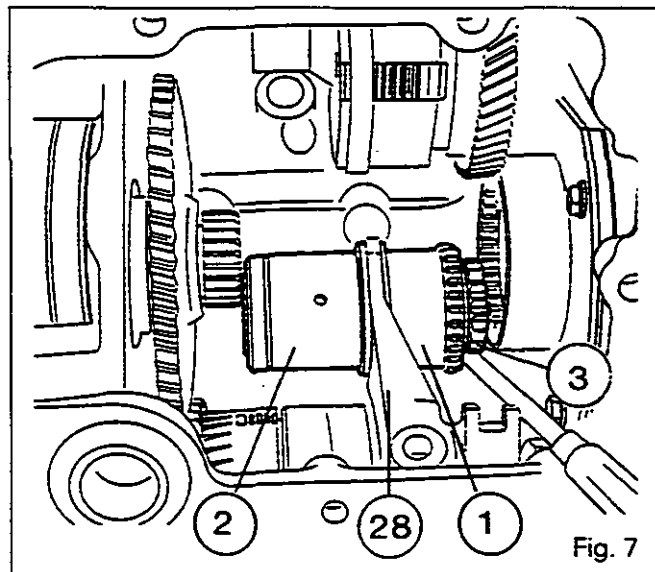

Fig. 7
14. Slide the sleeve (2) and the coupler (1) towards each other on the connecting shaft (3) (Fig. 7).
15. Move the assembly comprising the sleeve, connecting shaft and coupler to the outer left-hand edge and then withdraw it from the fork (28) (Fig. 7).
Note: Mark the direction of fitting for the sleeve (2) (Fig. 7).